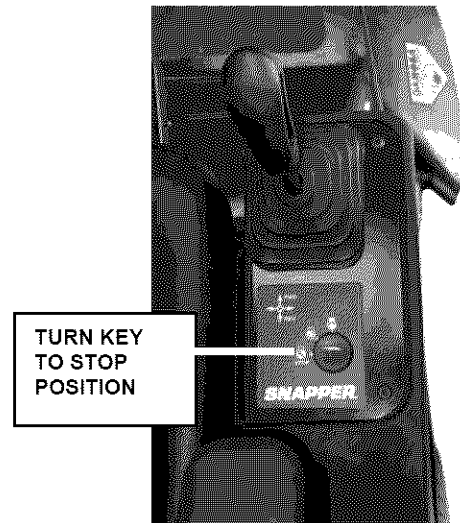

FIGURE 2.8
1. Stop engine by turning key to the "STOP" position. See Figure 2.8.
1. Stop motion of riding mower by moving joystick to neutral (N) position. See Figure 2.8.